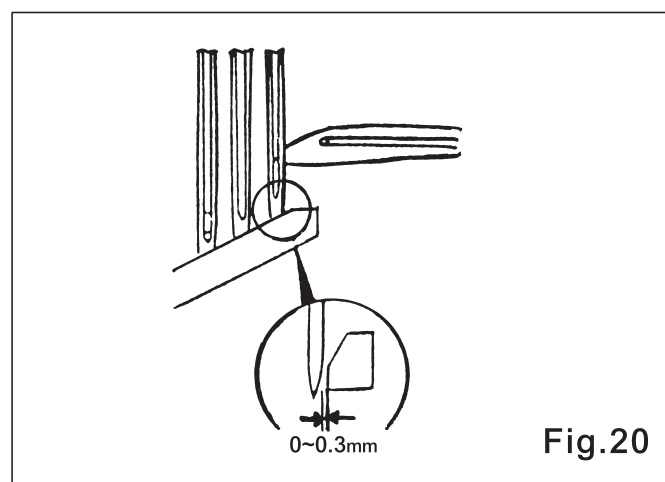

Fig.20
2. When the Looper reverse to center of right needle, the clearance between right needle and Front Needle Guard is 0.3mm. (Fig. 20)